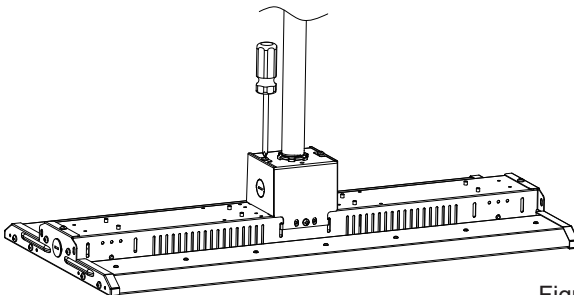

Figure4
Step 4: Lock side brackets with screwdriver (figure 4)